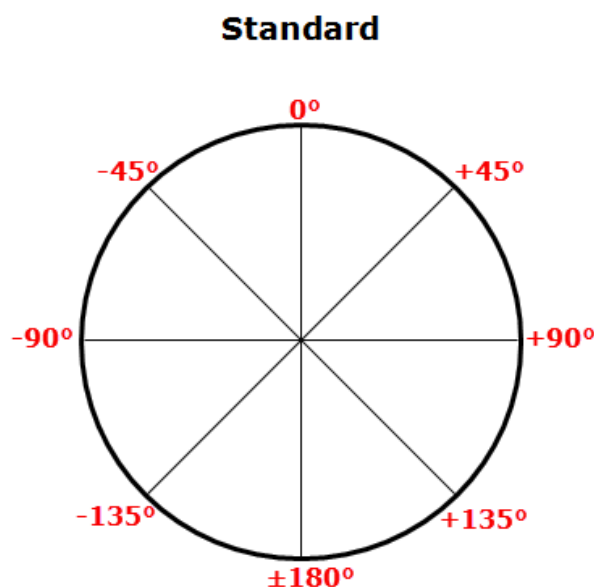

Figure 2. Standard mode
- Standard – For viewing purposes only. In standard mode, the 0 degree reference point is at the 12 o'clock position. Measures from 0 to +/- 180 degrees. [Figure 2]